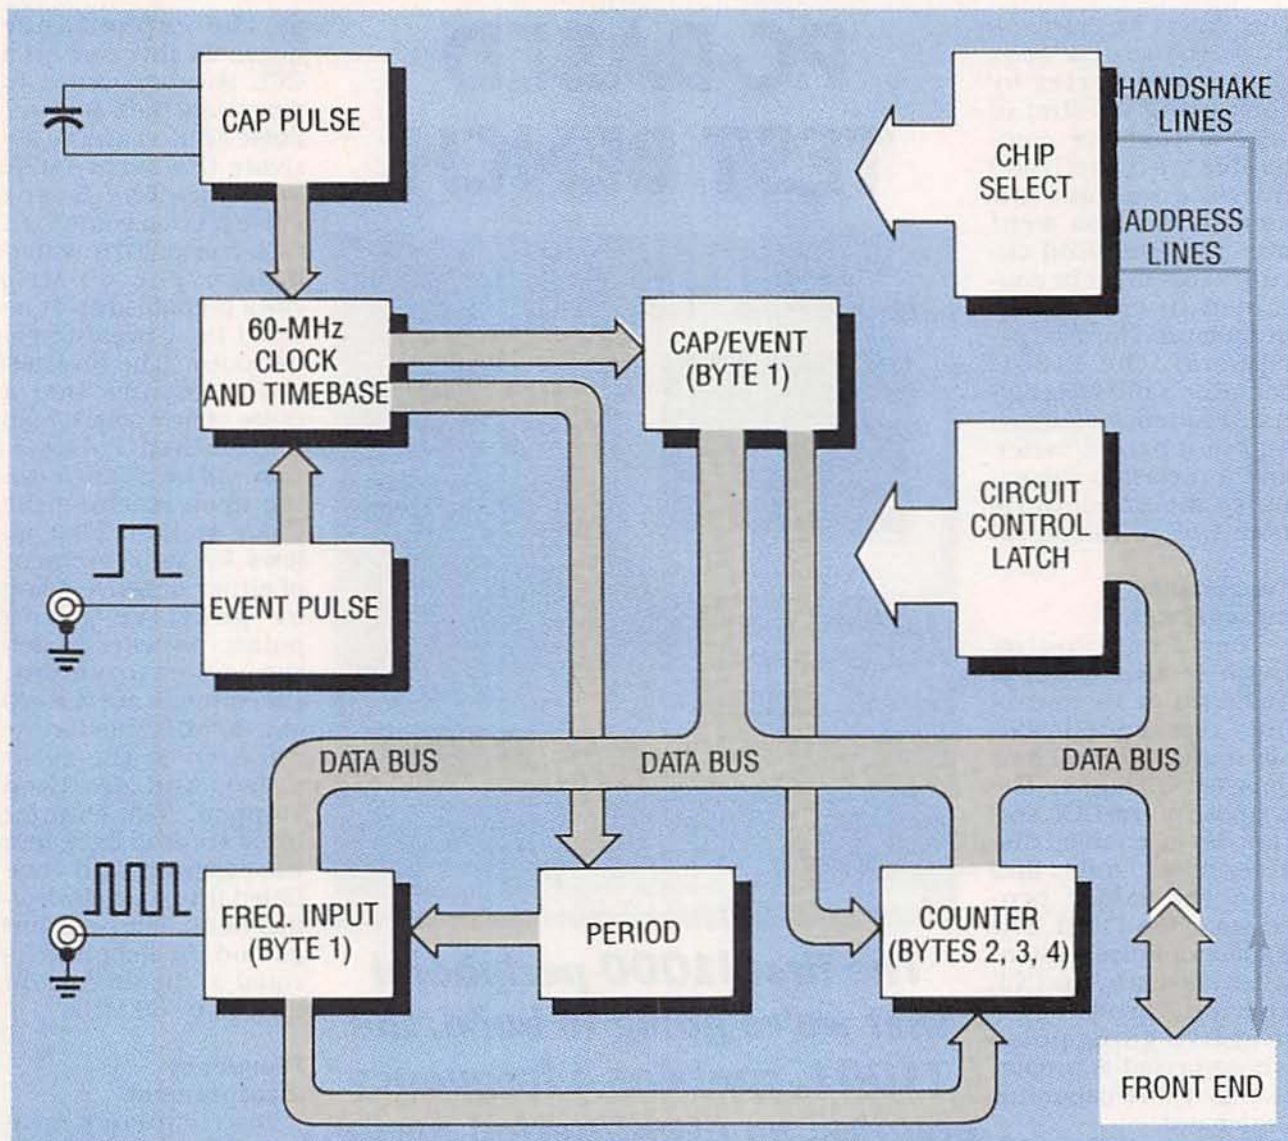

FIG. 1—T1001 BLOCK DIAGRAM. This peripheral contains a 100-MHz digital frequency counter, an event/period meter, and a precision capacitance meter.
1. *High-frequency (HF) allocations.* Figure 1 shows the additional frequency allocations made for high-frequency broadcasting. Four conditions were imposed on those allocations:
2. *Satellite sound broadcasting (BSS):* The issues here produced a genuine tug-of-war. The conference was divided from the outset on allocation of frequencies. Most Europeans wanted the more economical and propagationally suitable L-Band, with an allocation around 1.5 GHz. However, the U.S. was firmly opposed to that allocation because military aeronautical services are now operating in that band. The U.S. wanted the allocation in the S-band, around 2.3 GHz. Other countries, notably China, Russia, Japan, India, and Pakistan, wanted the BSS allocation to be around 2.5 GHz. (See Fig. 1)
3. High-definition television (HDTV). This service ran into problems similar to those encountered in BSS, and there was no agreement on worldwide allocations. Instead, Europe, Africa, and Asia will use the 21.4- to 22-GHz band, and the Americas will use the 17.3- to 17.8-GHz band. Feeder links will be in the 18.1- to 18.4-GHz band in the Americas, and 24.25- to 25.25-GHz band elsewhere. (See Fig. 1) These bands will become available on April 1, 2007.
The Circuit Control Latch section (CCL) is made up of 16 control lines that are individually routed to every block depicted in Fig. 1. The purpose of the CCL section is to enable, disable, reset, start, and stop the major processes of the T1001. The Capacitor Pulse section, when started by the CCL section, produces a negative-going pulse whose period is proportional to the capacitor under test.